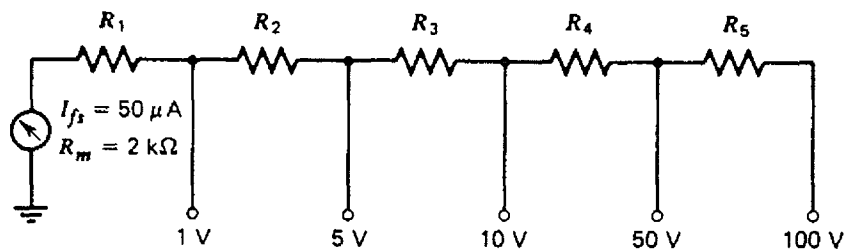

FIGURE 2-32 Circuit for Problem 2-7.
- 2-7 Calculate the value of the resistors R_1 through R_5 in the circuit of Fig. 2-32.